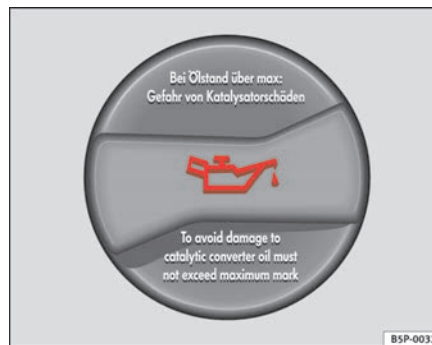

Fig. 140 In the engine compartment: Engine oil filler cap
- Unscrew cap from oil filler opening ⇒ fig. 140.